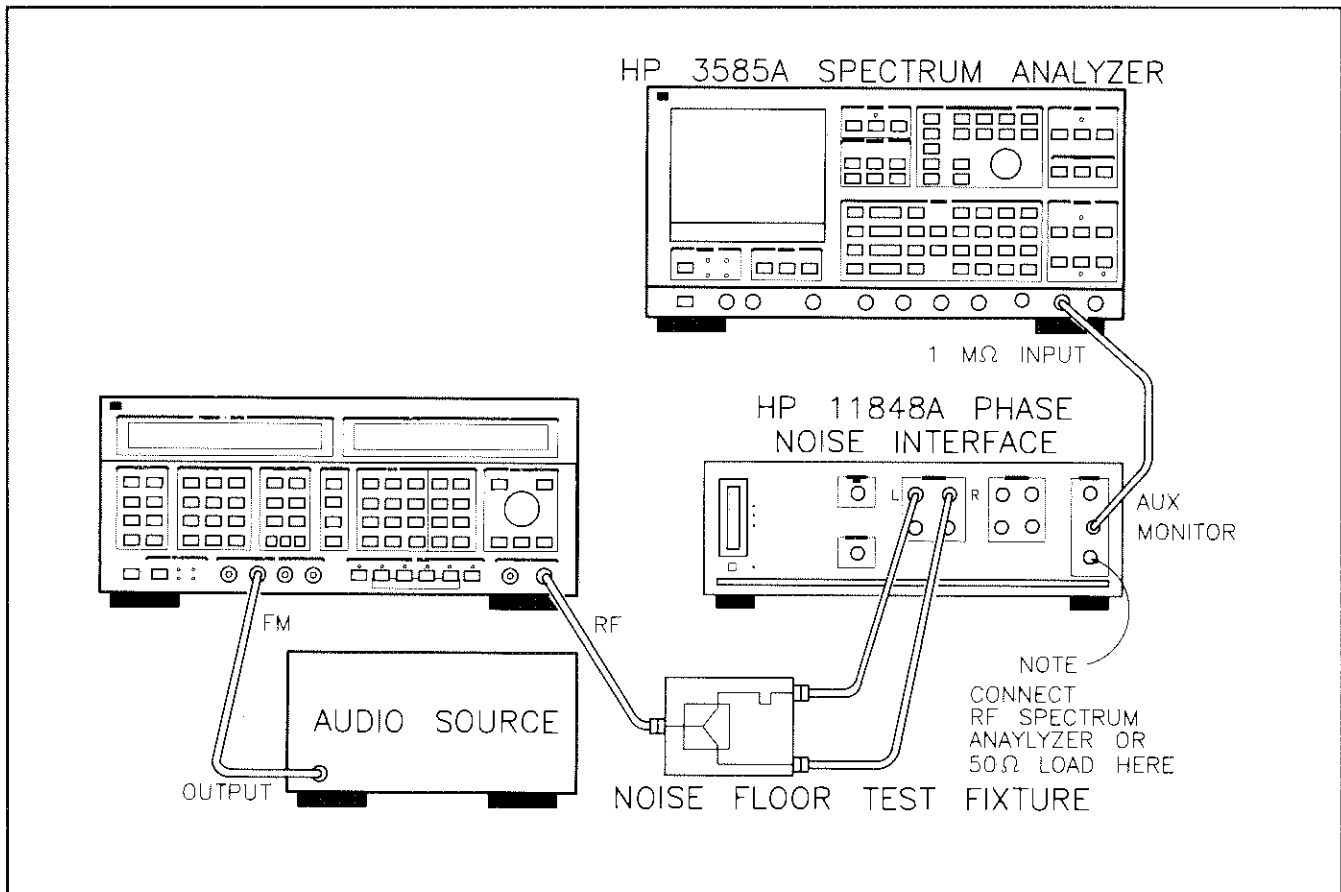

Figure 3-5. FM (High Deviation and Rates) Test Setup
2. Connect the equipment as shown in figure 3-5. Check that the SPECTRUM ANALYZER output connector on the front panel of the HP 11848A Phase Noise Interface is terminated in 50 Ω. Also, check that the delay line connectors are tight.